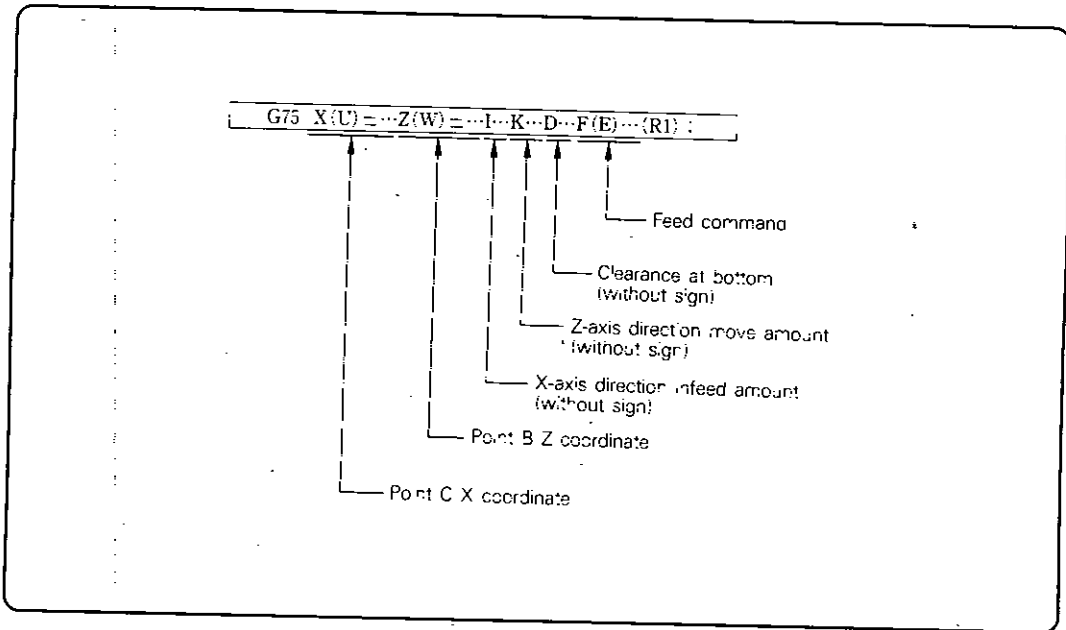
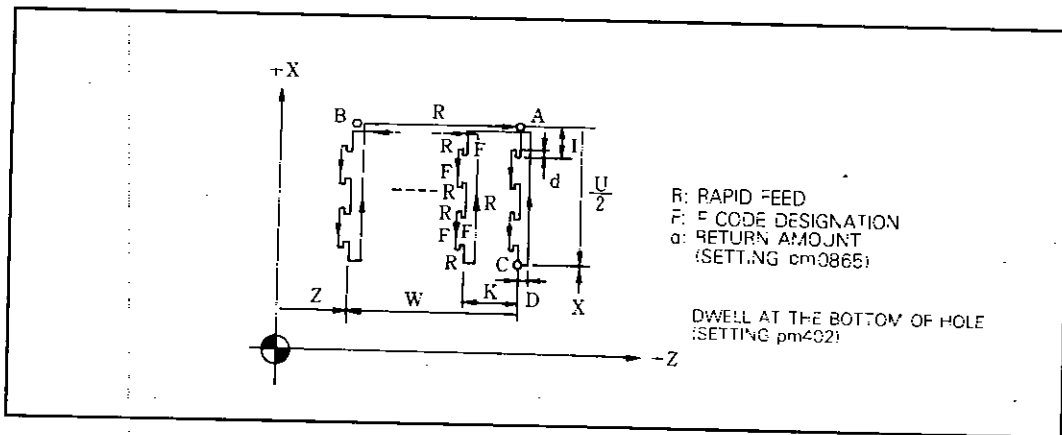

Fig. 2.13.38 Cycle Command
Fig. 2.13.39 Cycle Execution
(1) The command of Fig. 2.13.38 executes the cycle of Fig. 2.13.39.